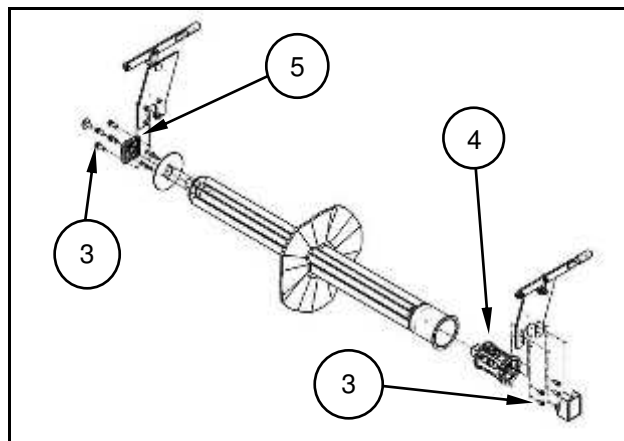

Fig. 6.3
- Loosen and remove the fastening bolts (3) of the motor carrier (4) and the bearing (5) and remove (Fig. 6.3).